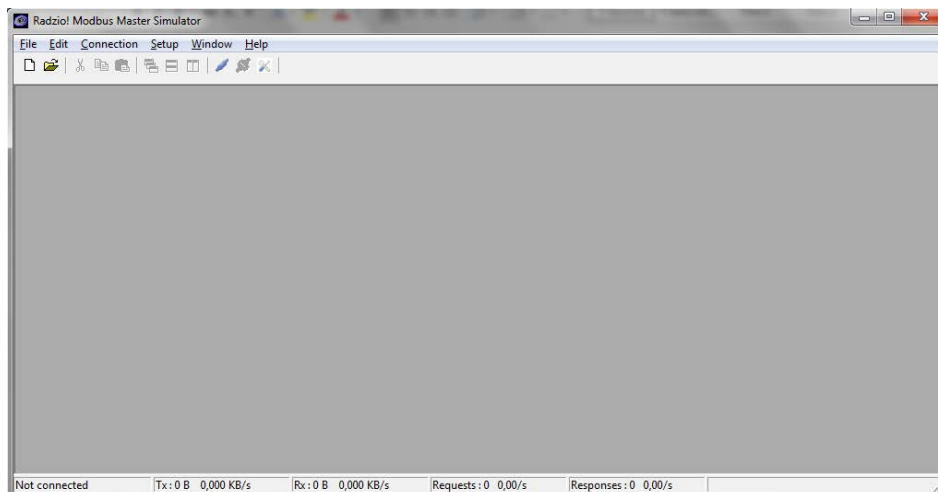

Fig 4: Radzio! Home Screen
4. Open the downloaded **Radzio!**, Fig 4